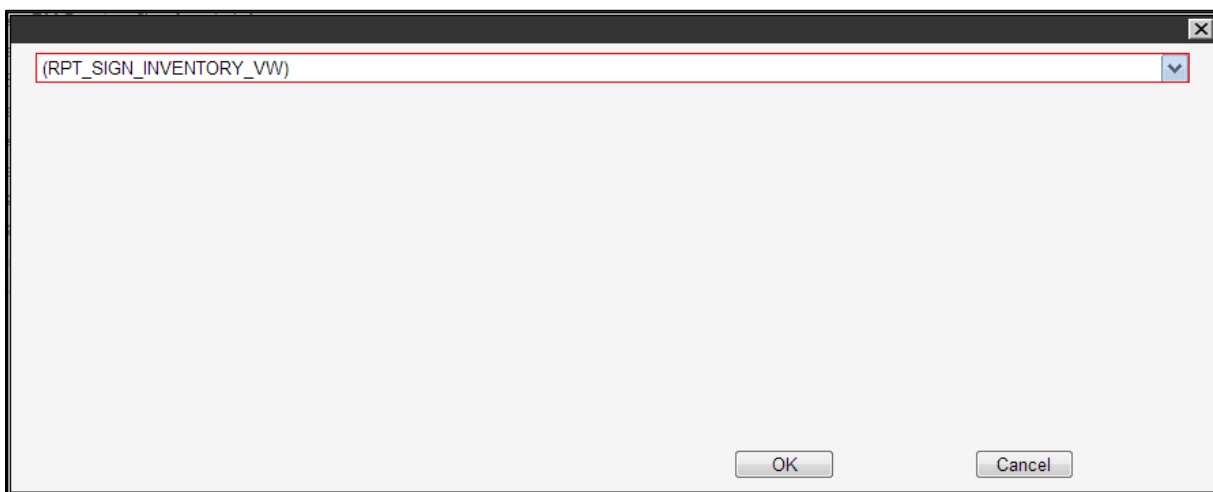
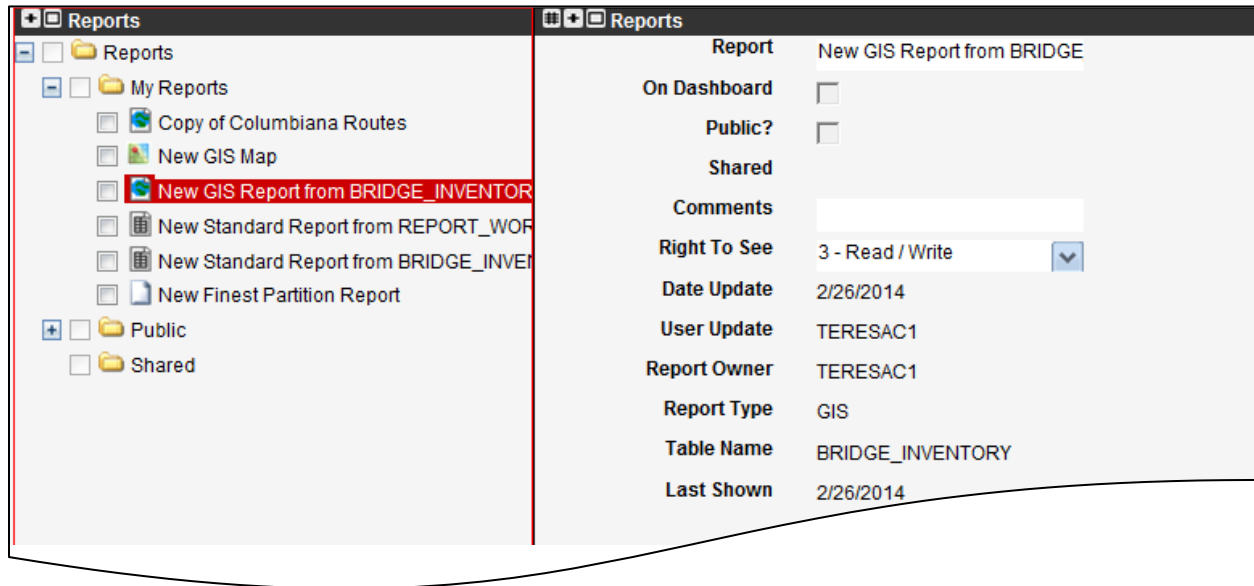

Figure 2-2. Reporting View Selection Dialog Box Example
Figure 2-3. Reports Management Window – New Report Example
- b. When prompted for the reporting view to report (Figure 2-2) (if applicable), use the drop list provided, and select the **OK** button.
**TIP!** The Reports Management window (Figure 2-3) shows a new report, and the selected reporting view (Figure 2-2) appears in the **Table Name** field.
- c. At any time, the user may edit the **Report** name, **Comments**, and **Right To See** fields (Figure 2-3) as required.